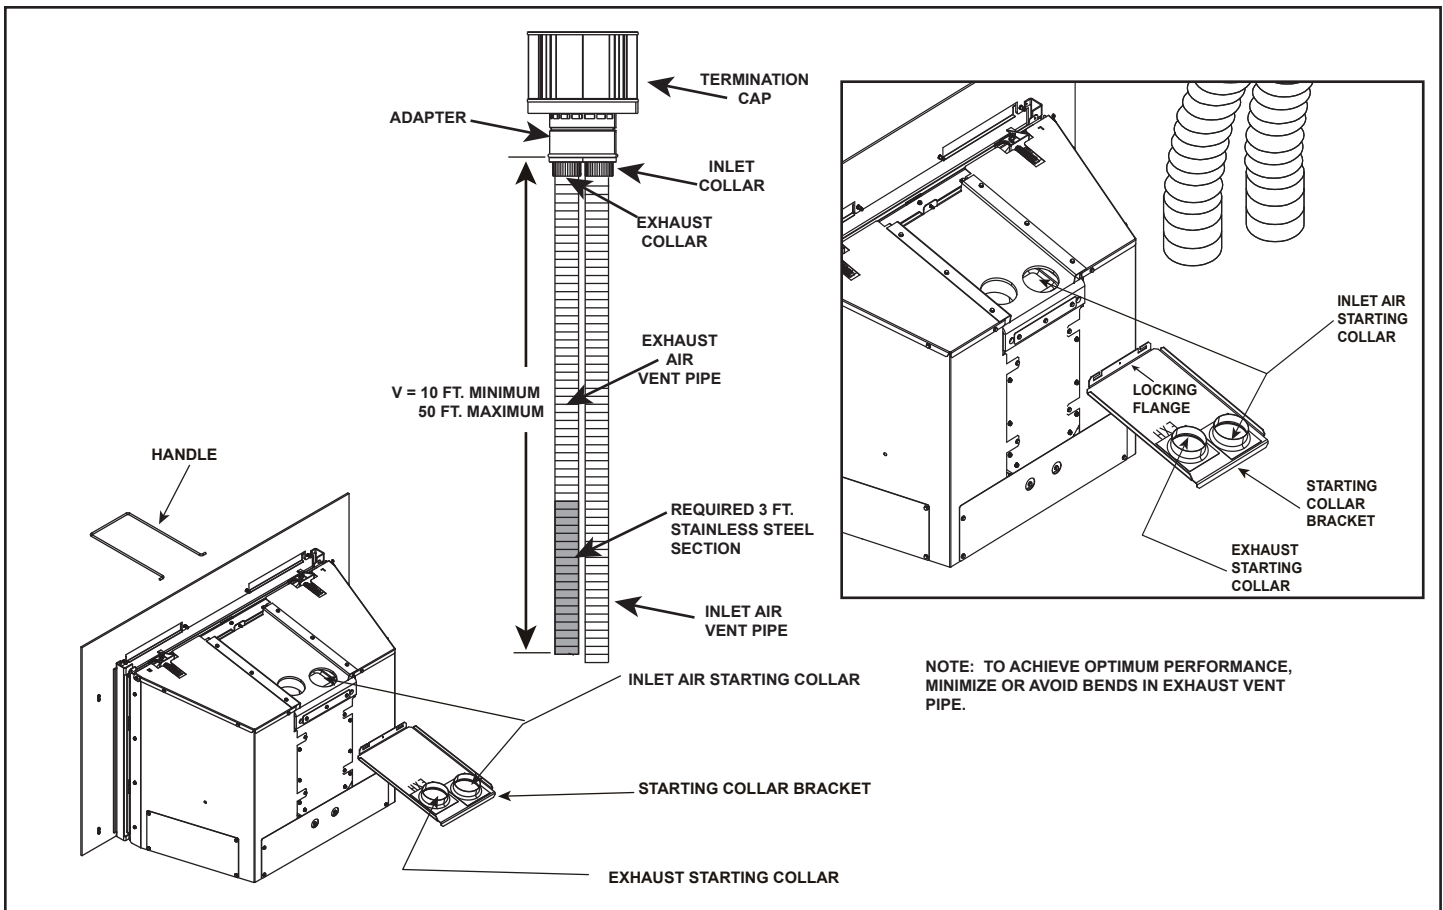

Figure 7.1
- Secure the exhaust flexible vent pipe to the 3 foot section stainless steel flexible vent pipe using the factory-installed 3 in. collar in the stainless steel section of pipe (see Figure 7.1).
- Use 3 screws to attach the section of inlet air vent to the inlet collar on the collar slide plate. See Figure 7.1.
- Secure collar slide plate to appliance by placing locking handle into position with locking tabs (see Figure 7.1) and secure with #8 screw.